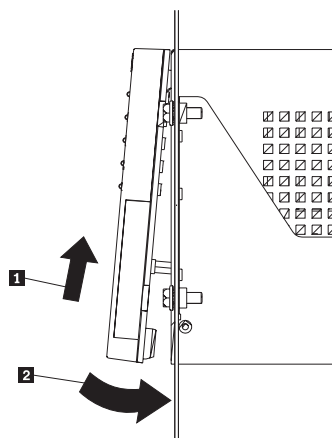

Figure 10. Replacing the controller-unit bezel on models 3526 and 3552
5. To replace the bezel (machine types 3526 and 3552), slide the top edge under the lip on the chassis **1**; then push the bezel bottom until the pins snap into the mounting holes **2**, as shown in Figure 10.